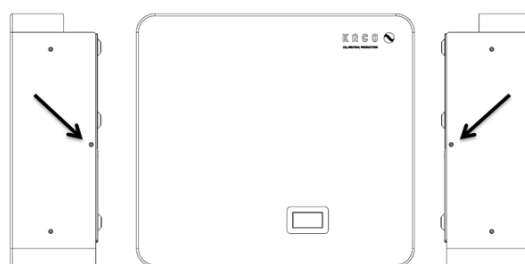

Fig. 6: Position of the locking screws
6. Remove the wall bracket from the back of the device by loosening and removing the locking screws according to Fig. 6 [ T\_TX20/ 1.5Nm].